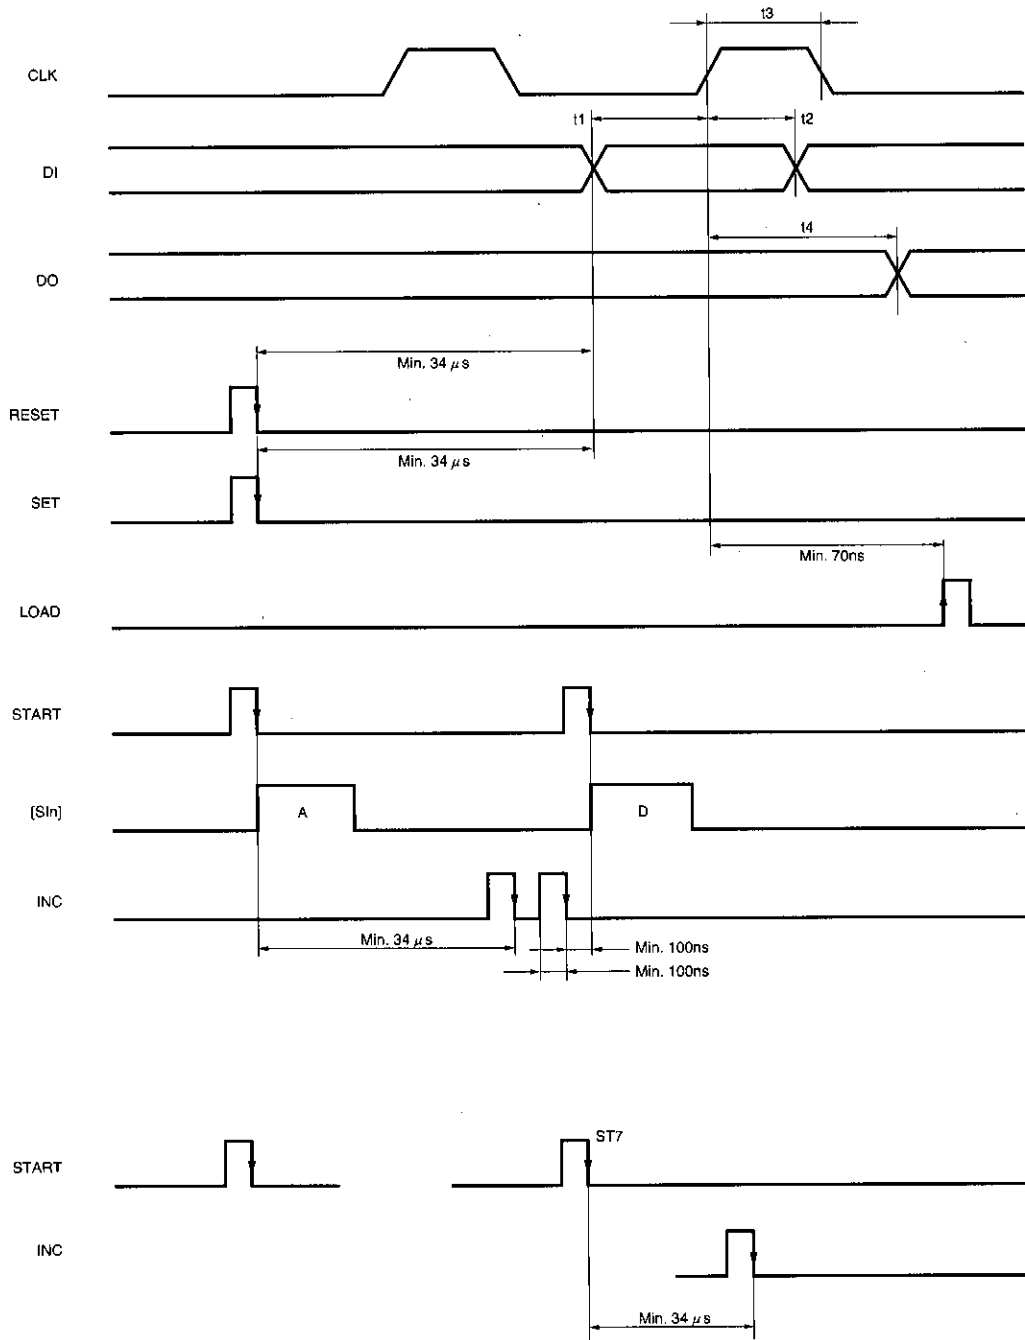

Fig. 2
- INC : Supports the increment function from level 1 to level 6. One level is incremented for one pulse. (See Fig. 2)
- RESET : Sets all data at "LOW". Clears data when printing is resumed after a pause. (See Fig. 2)
For two-part split printing, enter INC after 34 μ seconds of START7. (See Fig. 2)